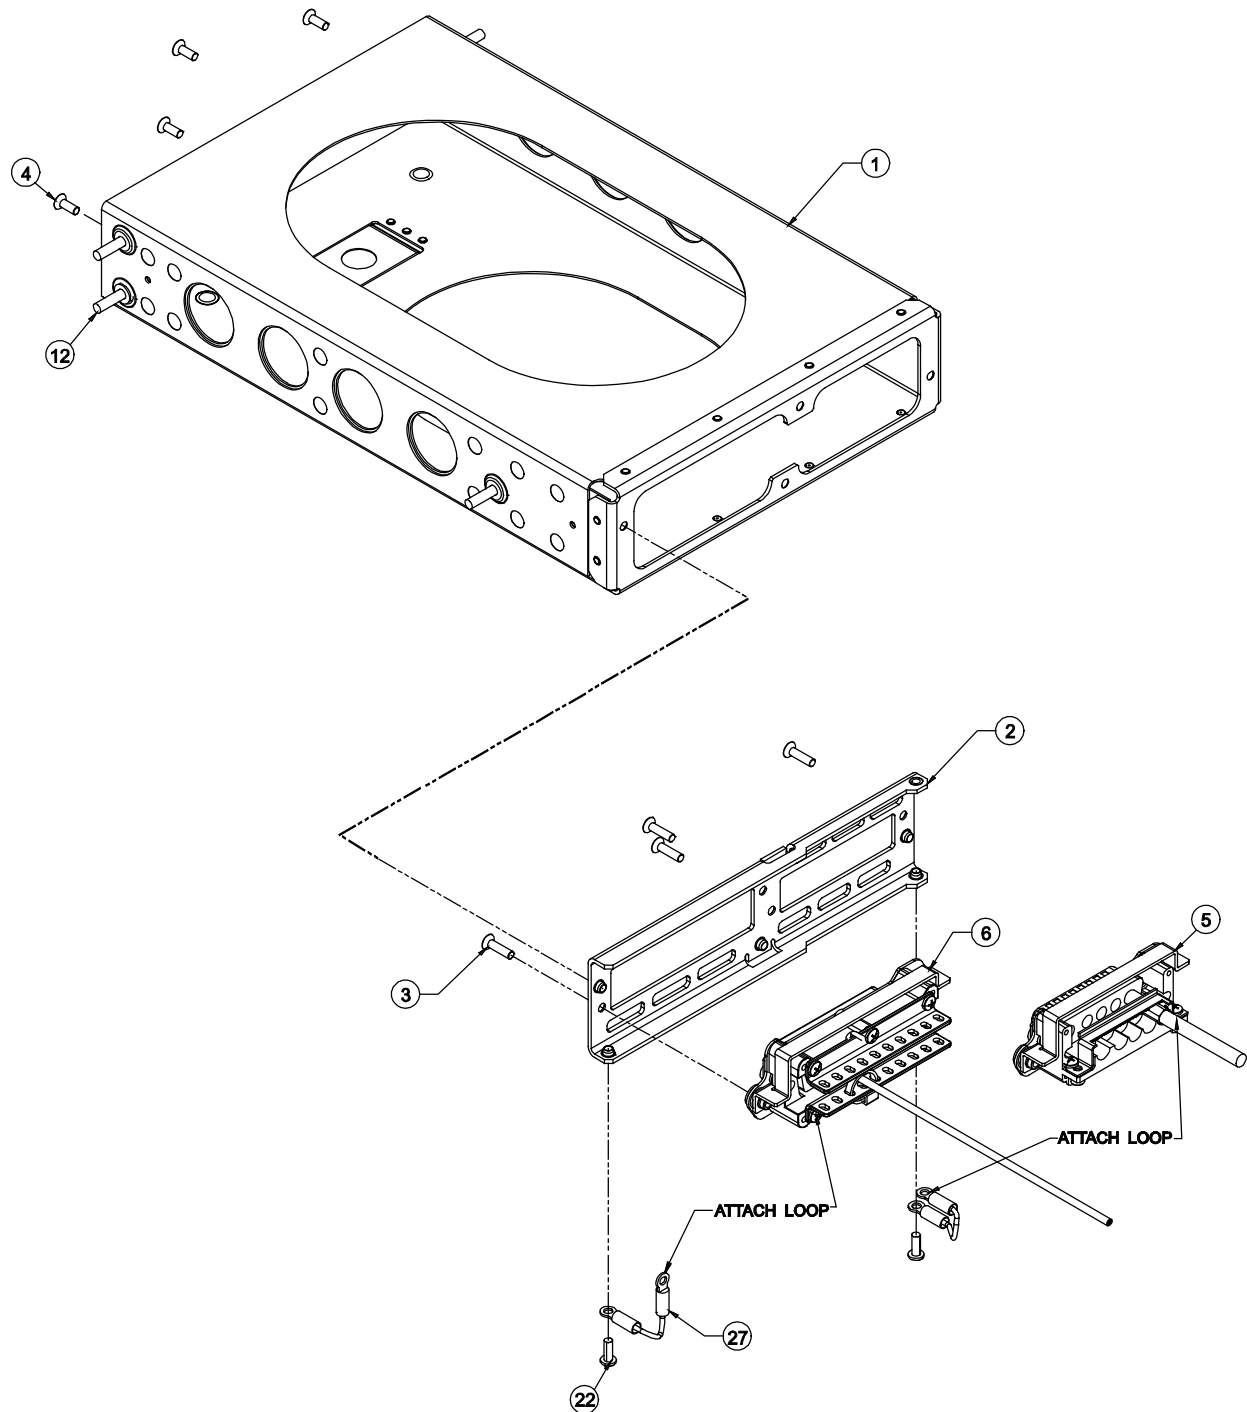

Figure 2-12: Panel Assembly
1. Assemble Connector Pins P/N M39029/57-354 (item 11) to wires using Crimp Tool M22520/5-01 and Insert M22520/5-05.
2. Secure Backshell P/N 9010-17012-01 (item 9) to P1 Mating Connector P/N 9080-17006-01 (item 14) using 4 Screws P/N 2000-10085-01 (item 7).
3. Secure 2 Wire Clamps P/N 9000-17076-01 (item 10) and 1 Cable Ground Strap P/N 9020-17002-01 (item 27) to Backshell (item 9) using 6 Screws P/N 2000-10087-01 (item 22). (Refer to Figure 2-12 for the installation location of the other side of the cable ground strap.)
5. Secure Wires to Wire Clamps (item 10) using Cable Ties P/N 1040-10002-01 (item 26) as required.
This procedure assumes that the mating connector and Antenna Cables are assembled. Refer to Figure 2-12.